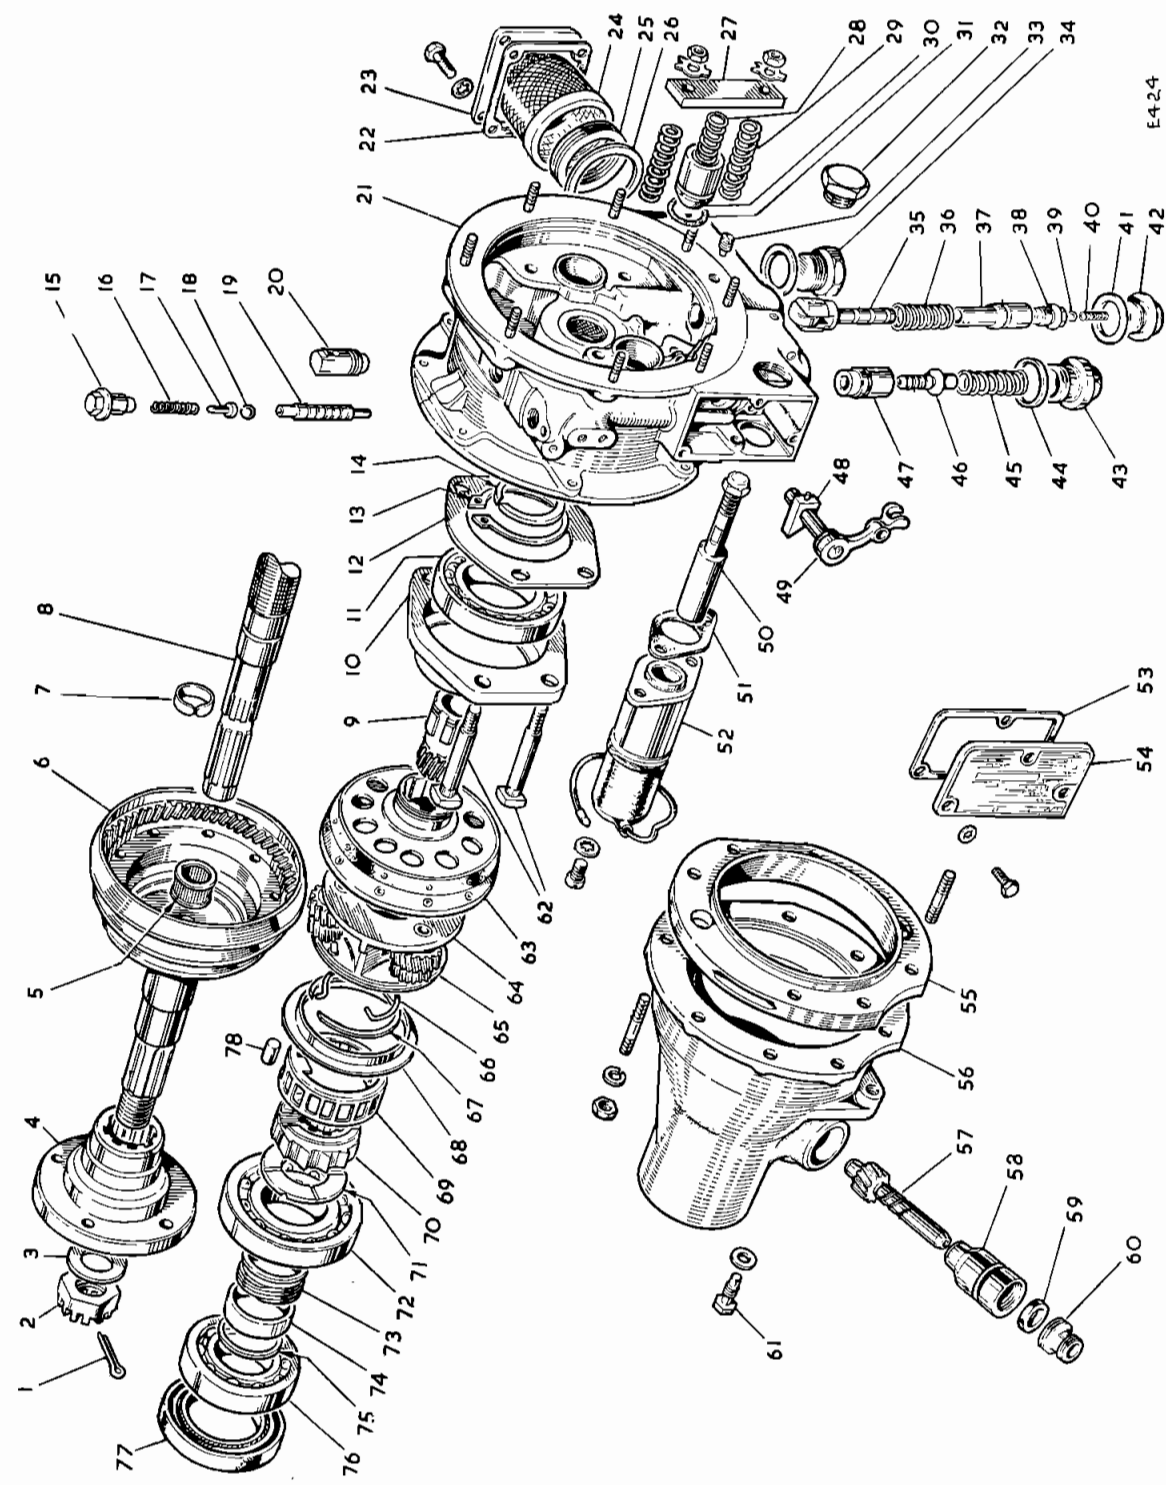

Fig. 13. Overdrive unit
KEY TO FIG. 13
**DISMANTLING (Fig. 13)**